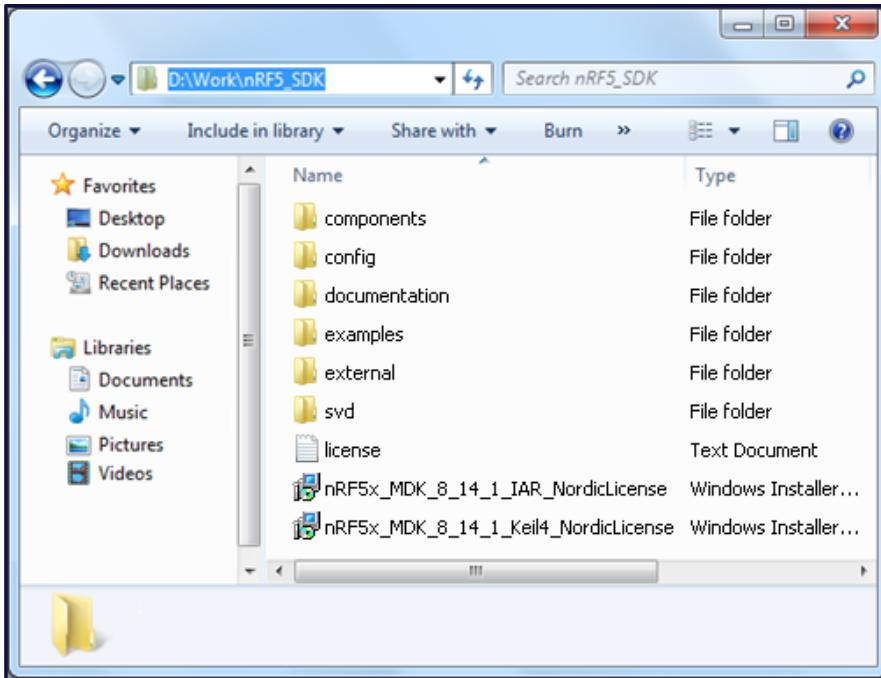

Figure 1: nRF5 SDK Folder Structure
2. Once downloaded, extract and place the SDK in a suitable location on your machine, e.g.: **D:\Work\nRF5_SDK** (Figure 1).